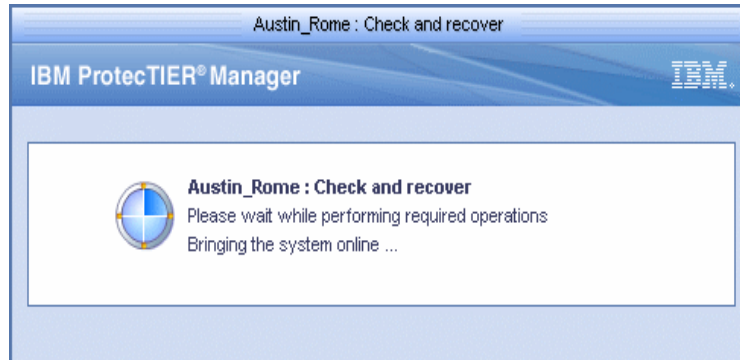

Figure 10-125 Check and recover window
5. You should save or print the report and click **Close** to close the window. The system then is brought online (Figure 10-125).